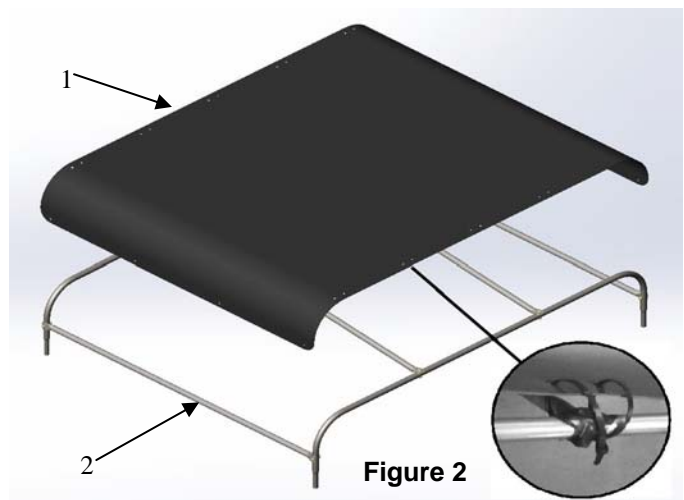

Figure 2
Position roof reinforcement (fig.2, item 1) onto frame's assembly (fig.2, item 2) and connect together with 18 nylon tie wraps.